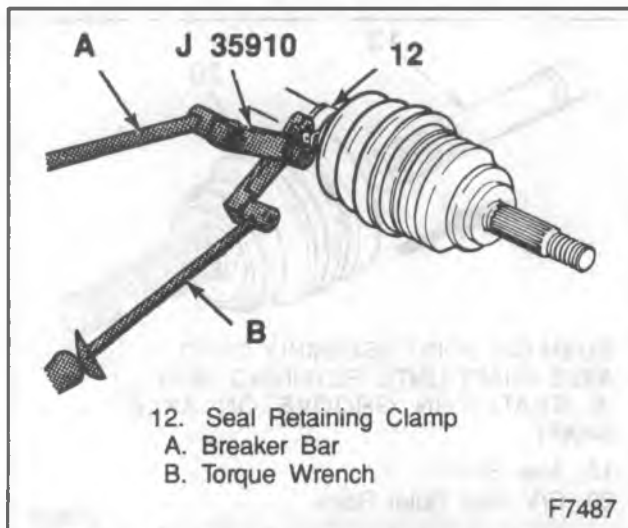

Figure 35—Installing Seal Retaining Clamp
1. Small seal-retaining clamp (12) on neck of new seal (14). Do not crimp.
2. Slide seal (14) onto axle shaft (13) and position neck of seal in seal groove on axle shaft.
3. Crimp seal-retaining clamp (12) with J 35910 to 136 N·m (100 ft. lbs.). (See Figure 35).
4. Place approximately half of grease provided inside seal (14) and repack C/V with remaining grease.
5. Pinch swage ring (15) by hand slightly to distort into oval shape and slide onto large diameter of seal (14).
6. Push C/V joint onto axle shaft (13) until retaining ring (16) is seated in groove on axle shaft.
7. Slide large diameter of seal (14) with large swage ring (15) in place over outside of C/V joint race (20) and locate lip of seal in housing groove.
1. Small seal-retaining clamp (12) on neck of seal (11). **Do not crimp.**
2. Slide seal (11) onto shaft (13) and position neck of seal in seal groove on axle shaft (13).
3. Crimp seal retaining clamp (12) with J 35910 to 136 N·m (100 ft. lbs.) as shown (Figure 35).
4. Spacer ring (8) on axle shaft (13) and beyond 2nd groove as shown.
5. Slide tri-pot spider assembly against spacer ring (8) on shaft (13).
- Seal (11) must not be dimpled, stretched or out of shape in any way. If seal is **not** shaped correctly, carefully insert a thin, flat, blunt tool (**no sharp edges**) between large seal opening and housing (1) to equalize pressure. Shape seal properly by hand and remove tool.
13. Crimp seal retaining clamp (9) with J 35910 to 176 N·m (130 ft. lbs.) (Figure 35).